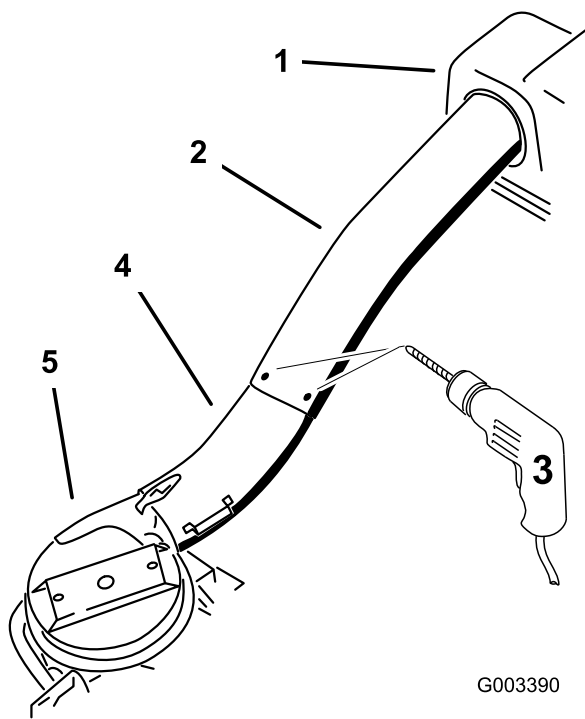

Figure 29
12. Using the 3 holes or indentations in the upper tube as a template, drill 3 holes (7/32 inch diameter) where the upper and lower tubes join together (Figure 29).